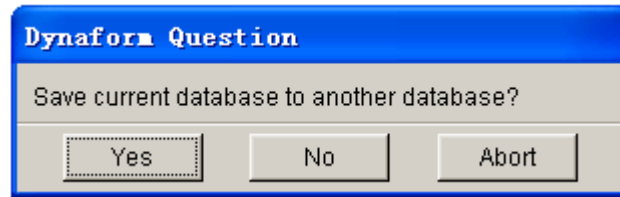

Figure 3.3.1 Dynaform Question window
- When a database file is opened in eta/DYNAFORM, a warning message window as shown in Figure 3.3.1 prompts the user to save the active database file before creating a new one.
This function allows the user to restart the active database from the previously saved stage. eta/DYNAFORM prompts the user to save the active file prior to restarting the database. The message window is shown in Figure 3.3.1.